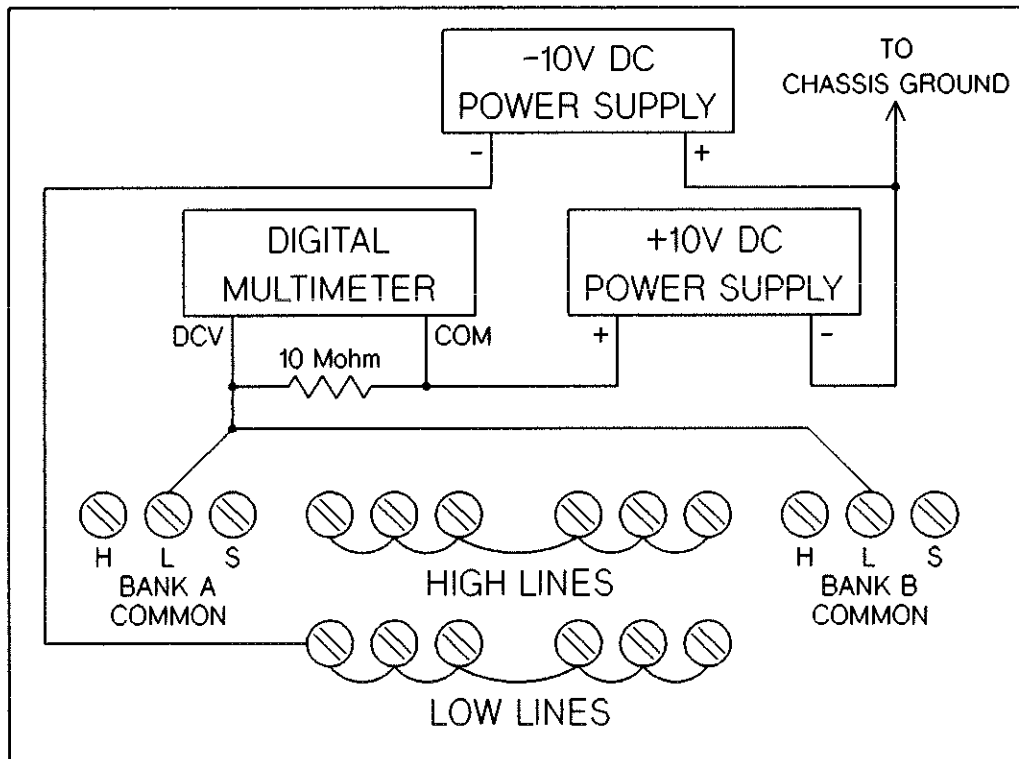

Figure 10-19 HP 44711A Open LOW Channel Test-Setup
10. Refer to Figure 10-19. Connect the negative power supply's negative lead to the shorted LOW lines on the test fixture. Connect the negative power supply common lead to the chassis.